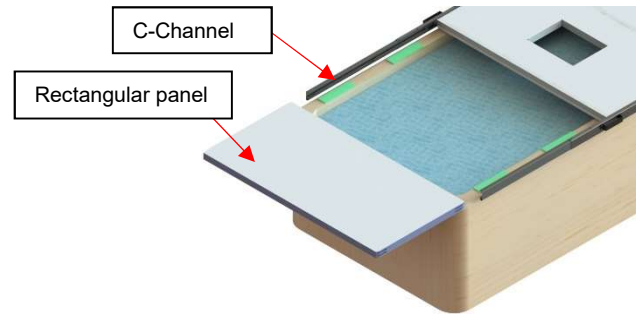

Figure 70
23) Slide in one of the remaining rectangular panels into the C-channels. (Figure 70)